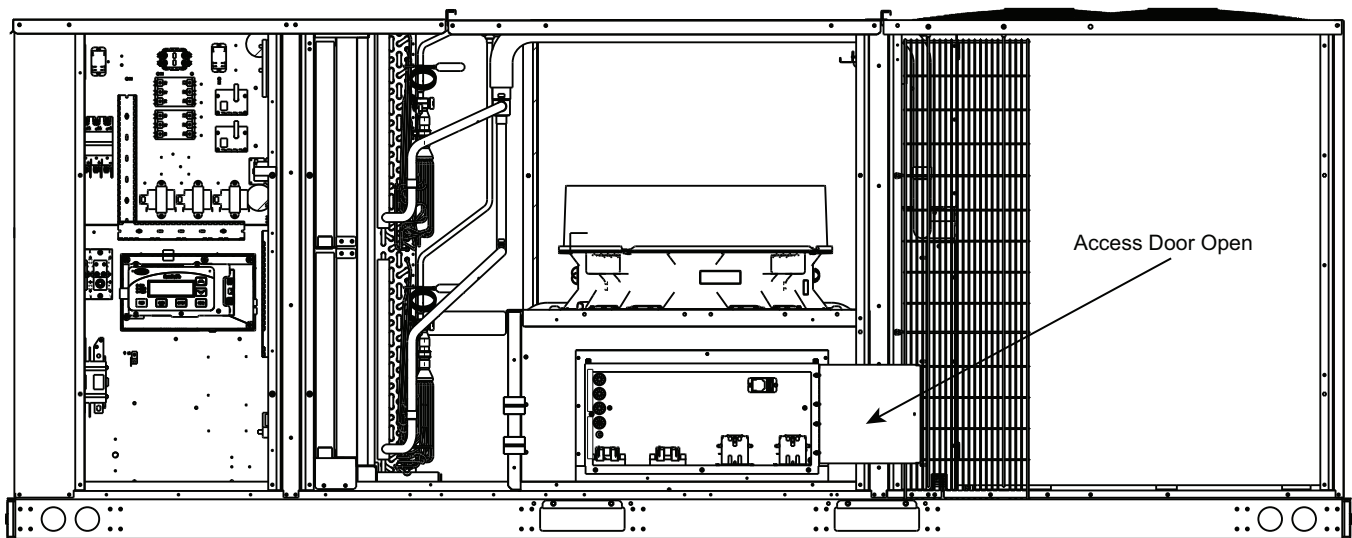

Fig. 43 — Electric Heater Accessory In Place (Shown with Access Door Opened)
5. Slide heaters until completely installed such that heater controls are completely in the unit. Using screws saved from Step 3, secure heater assembly. (See Fig. 43.)